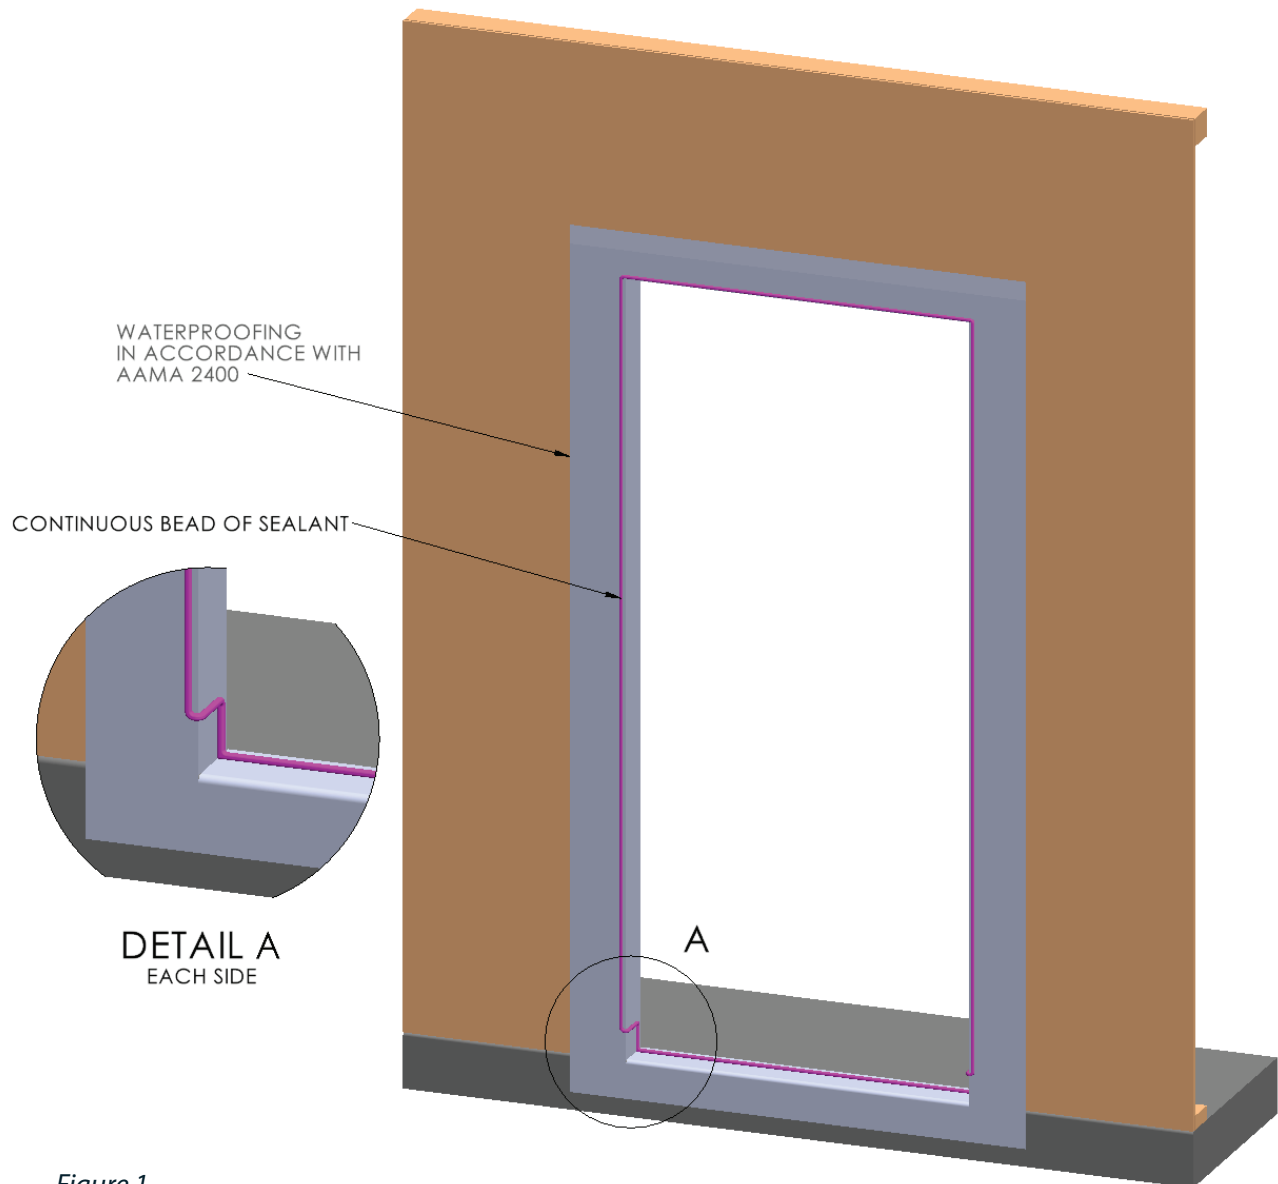

Figure 1
1. Apply a 1/2 " continuous bead of sealant to the oor along the interior edge of where the sill threshold will rest and 3" vertically up each jamb, wrapping to exterior of the jamb (where the nail n will contact), forming a continuous bead of sealant around the full perimeter of the opening. See Figure 1.